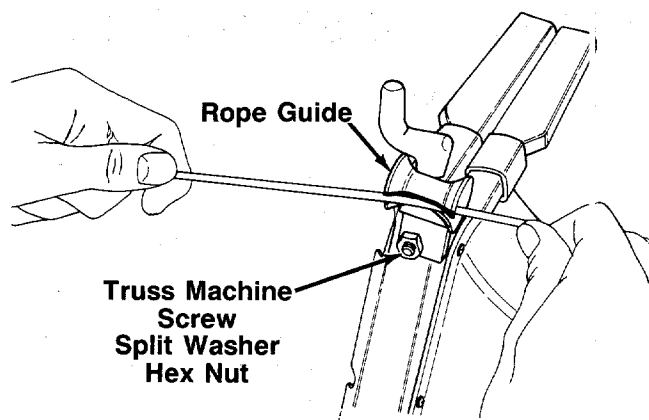

FIGURE 4.
- Slip the starter rope into the rope guide as shown in figure 4.